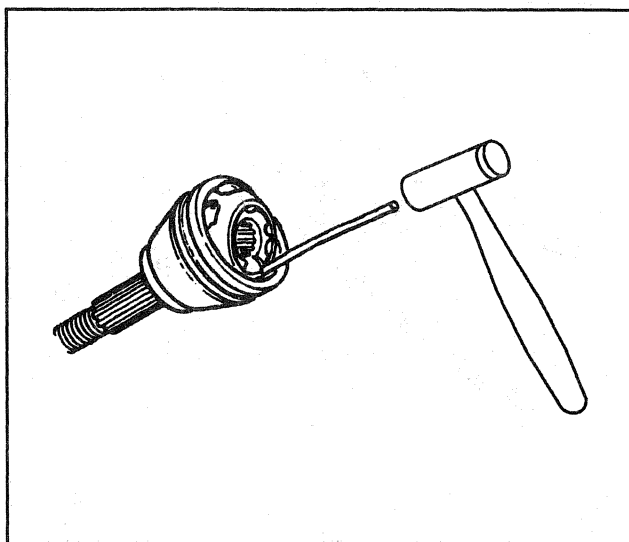

Figure 59—Removing C/V Joint Balls
Disassemble (Figures 59 and 60)
2. Use a brass drift and hammer to gently tap on the C/V joint cage until it is tilted enough to remove the first chrome alloy ball (Figure 59).
Assemble (Figures 59 through 61)
- A. Tap on the cage with a brass drift to tilt it enough to install the balls (Figure 59).